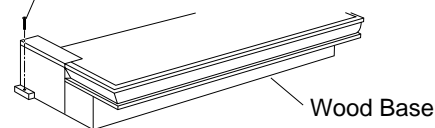

Figure 13 - Attaching Wood Base to Floor
10. Attach wood base to floor with two 1 3/4" black screws provided (see Figure 13). If the floor is concrete use anchor method (see *Attaching Wood Base to Solid Floor*, page 13).